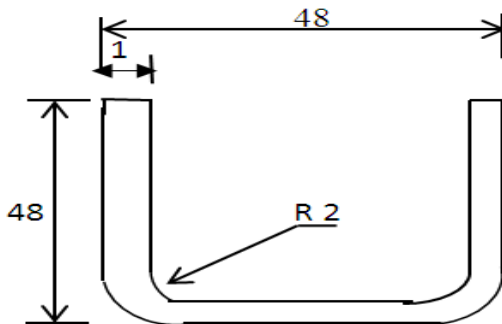

Fig.4
- b) A shell shown in figure 4 has a height of 48mm and a diameter of 48mm. The corner radius is 2mm and workpiece material is medium carbon steel (yield strength  $335\text{N/mm}^2$ ) and is 1mm thick. Design die for drawing operation.